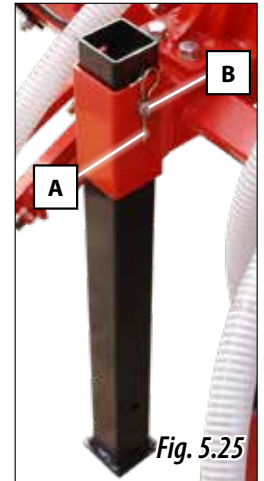

Fig. 5.25
- 1- Remove the security pin (A, Fig. 5.25) and the bolt (B, Fig. 5.25) for releasing the foot.
- 3- Place the security pin (A, Fig. 5.25) and the bolt (B, Fig. 5.25) for fixing the foot.